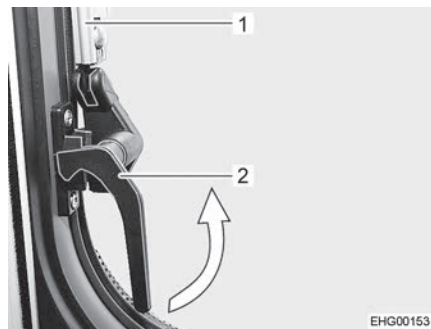

Fig. 29 Catch lever, on the side ("closed" position)
- Turn the catch lever on the side (Fig. 29,2) a quarter turn towards the centre of the window.
- Open the hinged window to the desired latched position. The automatic hinge (Fig. 29,1) locks in place automatically.